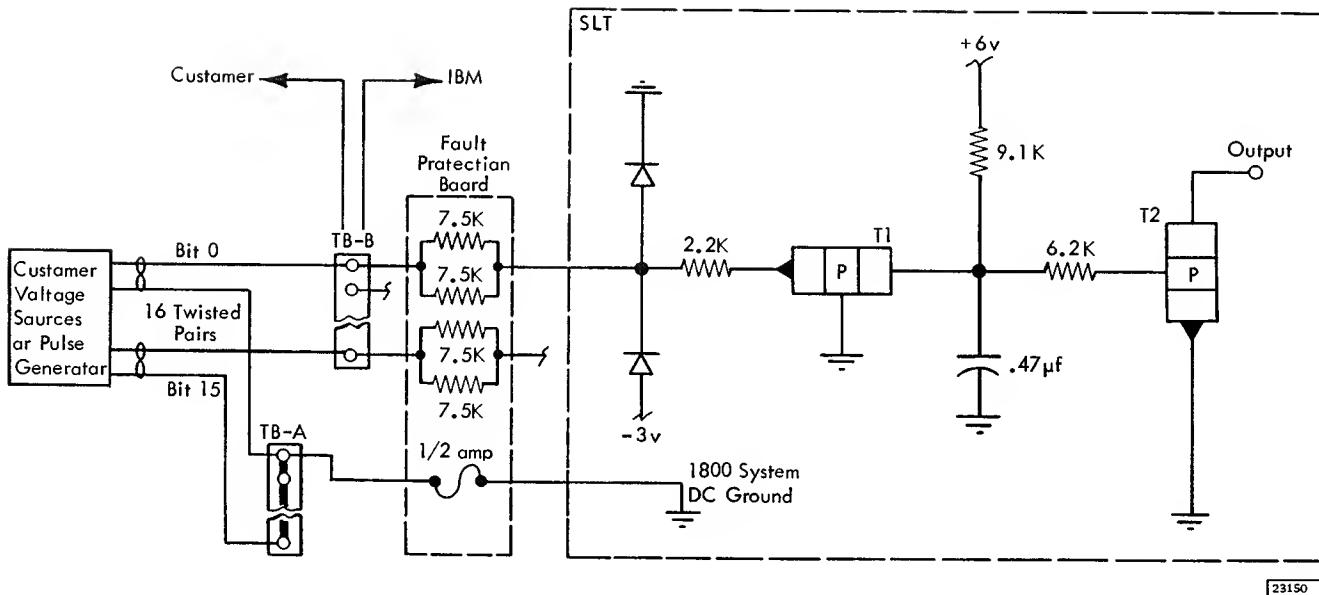

Figure 21. Process Interrupt, Voltage Sense Schematic (simplified)
9. Circuit Description: Figure 21.